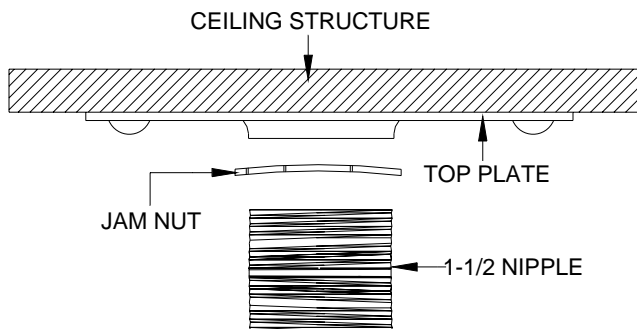

Figure 2. Height Adjustment
1. Screw the fully threaded nipple all the way into the secured top plate. Use the jam screw (supplied) to secure the pipe (Figure 2).